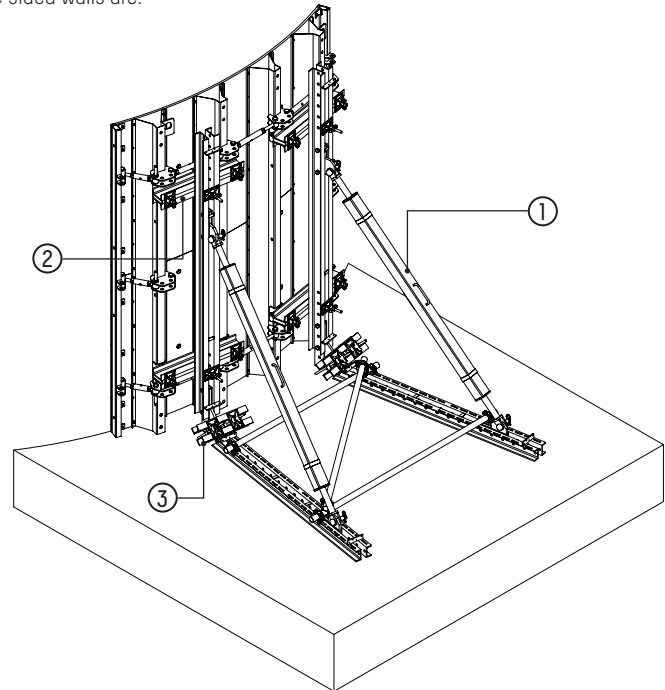

Fig. 48
(Fig. 48_a)
(Fig. 48_b)
- Connect the vertical walings to the horizontal auxiliary walings of the formwork (**Circa-Flex transom 81**) by means of "**Circa-Flex fixing tie-rod shoring beam**". (Fig. 48_b)
Fig. 48_a
Fig. 48_b